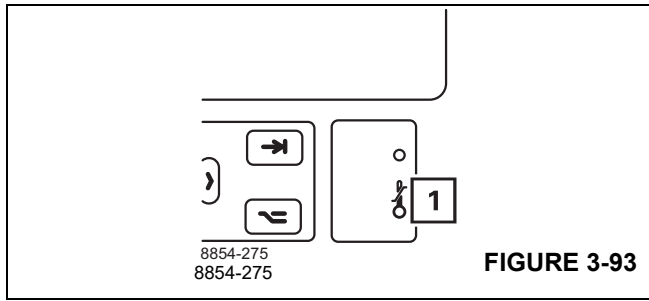

FIGURE 3-93
If the temperature on the display is too high, the brightness is reduced automatically – lamp (1), (Figure 3-93) lights up.